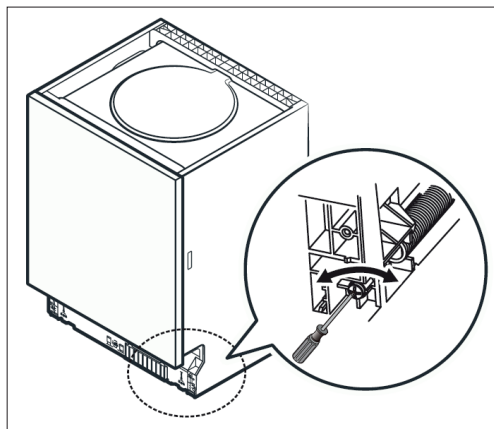

Fig. 15
- You adjust the strength of the springs using the screws located on the bottom part of the front of the dishwasher (Fig. 15).
3. You adjust the strength of the springs (left and right) using the screws located on the bottom part of the front of the dishwasher (Fig. 15). To increase the strength turn clockwise. To decrease the strength turn counter clockwise.